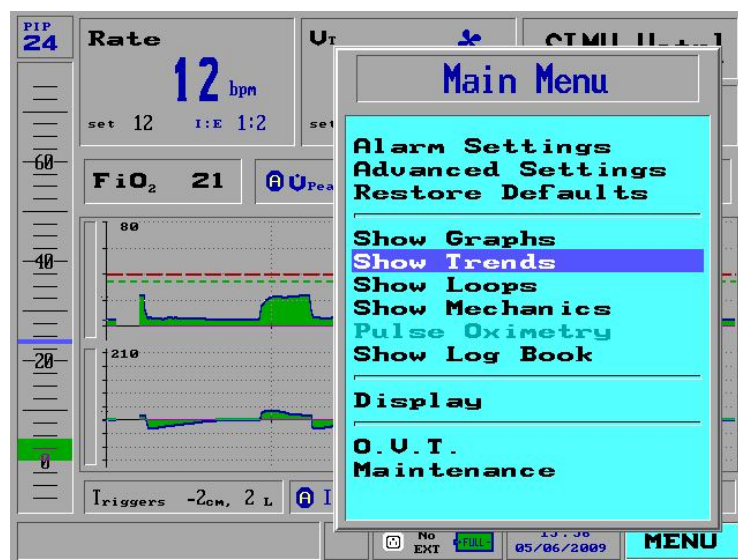

Figure 102: Show Trends selected on the Main Menu
2. Turn the Control Knob until **Show Trends** is selected, then press to select (Figure 102).